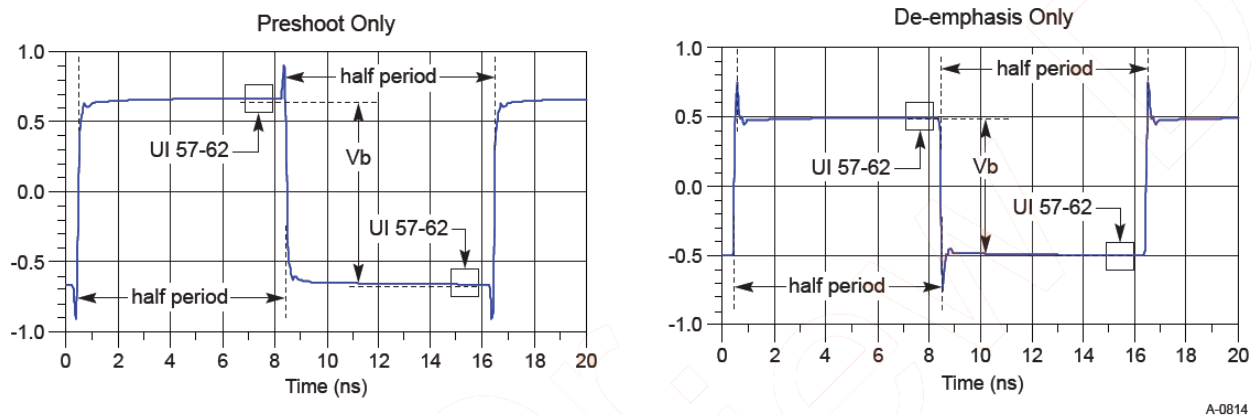

Figure 98 Waveform measurement points for preshoot and de-emphasis
8.0 GT/s, 16.0 GT/s and 32.0 GT/s PCIe signaling must support the full range of presets given in Table 8-1 (PCIe Base Specification Revision 5.0). Presets are defined in terms of ratios, relating the pre-cursor and post-cursor equalization voltages. The pre-cursor (V_c) is referred to as pre-shoot, while the post-cursor (V_b) is referred to as de-emphasis. This convention permits the specification to retain the existing 2.5 GT/s and 5.0 GT/s definitions for Tx equalization, where only de-emphasis is defined, and it allows preshoot and de-emphasis to be defined such that each is independent of the other. The tolerances in Table 8-1 (PCIe Base Specification Revision 5) also apply to 2.5 and 5.0 GT/s de-emphasis. The maximum swing, V_d , is also shown to illustrate that, when both c_{+1} and c_{-1} are nonzero, the swing of V_a does not reach the maximum as defined by V_d . The high frequency nature of PCIe signaling makes measurement of single UI pulse heights impractical. Consequently all amplitude measurements are made with low frequency waveforms as shown in Figure 98.